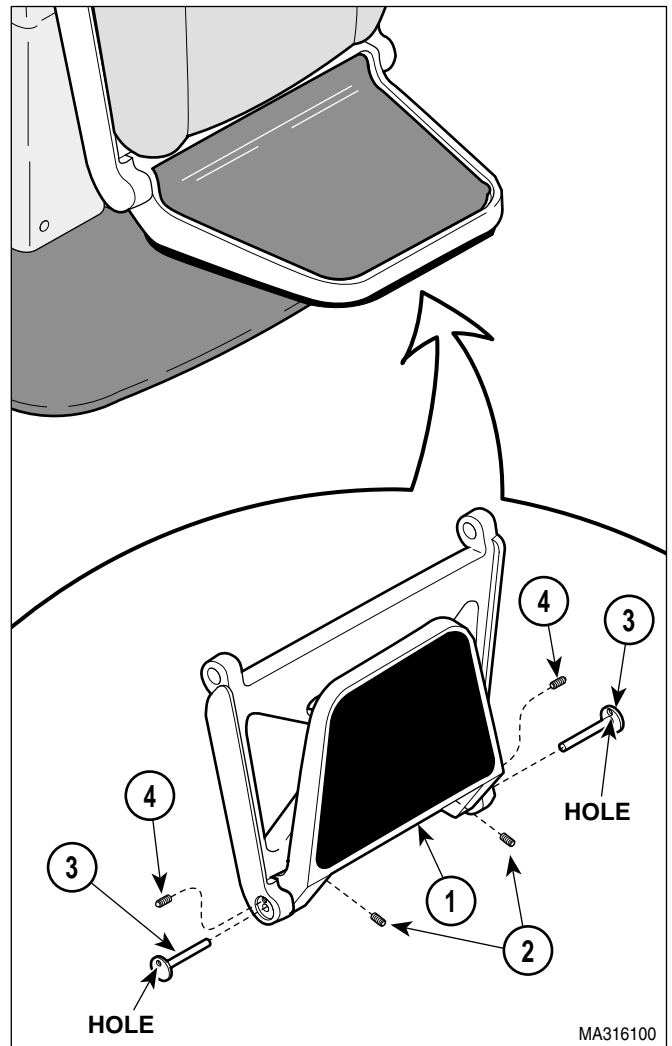

Figure 4-32. Footrest Stop Adjustment
- (1) Raise foot rest (1, Figure 4-32) up to the stowed position.